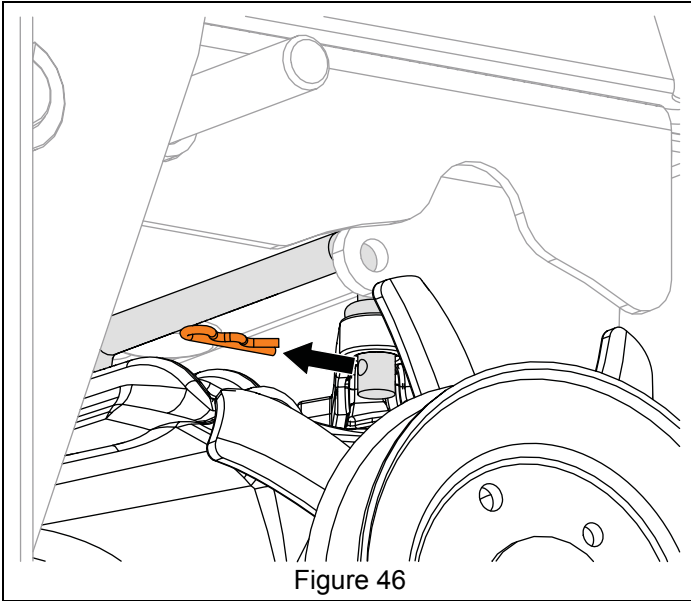

Figure 46
15. Remove hairpin securing transaxle bypass rod to transaxle and remove bypass rod from transaxle. See Figure 46.